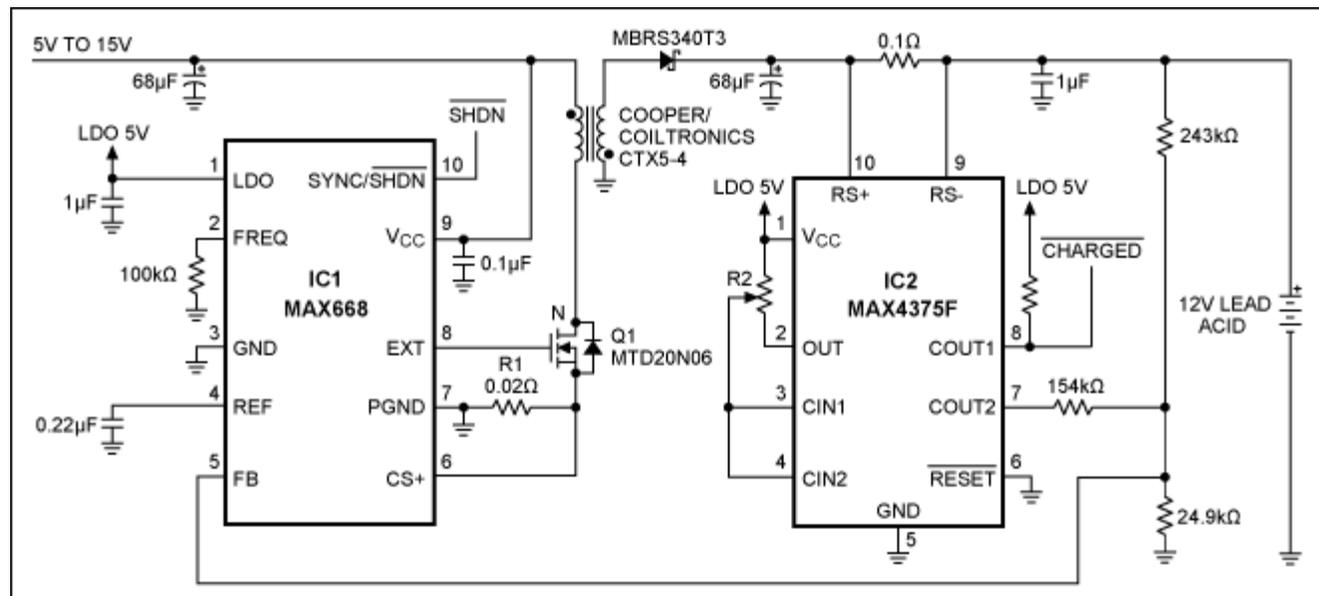
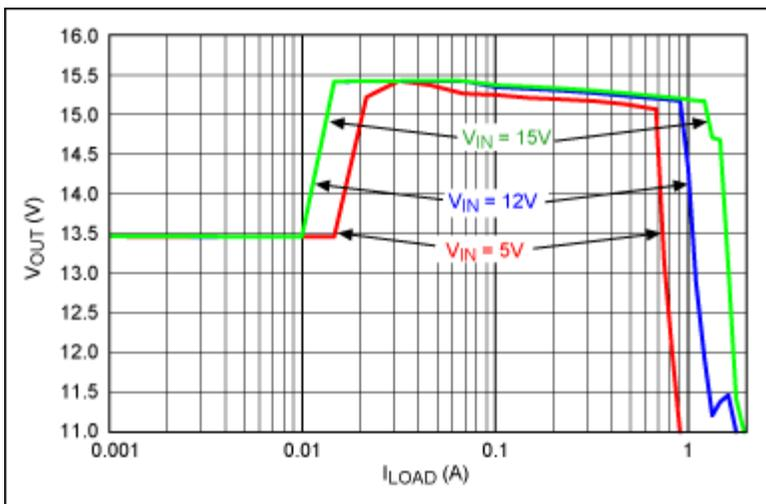

Figure 1. This lead-acid-battery charger applies high voltage (15V) until the battery is charged and then applies 13.4V to maintain a small trickle charge.
Figure 2. For the circuit in Figure 1, the applied voltage and charging current vary, as shown, during a charge cycle.
The circuit shown in **Figure 1** charges lead-acid batteries in the conventional way: A current-limited power supply maintains a constant voltage across the battery (approximately 2.4V/cell, as specified by the battery manufacturer) until the charging current decreases below a current threshold defined by the capacity of the battery. At this point, the charger is placed in a trickle-charge mode. The current threshold is typically 0.01C, where C refers to the battery capacity, specified in ampere-hours. When charging a battery, the term "C rate" refers to the current required, in theory, to charge a battery to its full battery capacity C in one hour. In actuality, power lost during the charge cycle ensures that all batteries charged at their C rate take more than an hour to reach full charge. Ideally, you could charge a 5A-hr battery in one hour if the charge current is 5A. Also, ideally, a C/10 charge rate (500mA) charges the same battery in 10 hours. However, the power loss mentioned previously increases these charge times beyond the two time spans stated above.
In Figure 1, the boost converter (IC1) applies a constant voltage of nominally 15.4V to the 12V lead-acid battery until it is fully charged. To maintain a trickle charge (overcharging current) of less than 0.001C thereafter, the charging voltage is lowered to about 13.4V. Using a flyback transformer instead of an inductor isolates the battery from  $V_{IN}$  and allows  $V_{IN}$  to range above and below the charging voltage. To begin a charge cycle, apply 5V to active-low SHDN.
**Figure 2** shows the output voltage versus the load current, tested with a resistive load instead of a battery, of the circuit in Figure 1. From right to left, this graph gives the variation of charging current with battery voltage as a battery is charged. At first, the converter is out of regulation, because the battery voltage is less than 12V and therefore is current-limited (supplying maximum current). As the battery voltage rises, the charging current then varies, as shown.